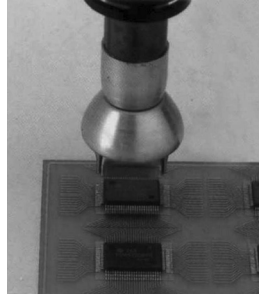

Figure 2
3. **Soldering:** Heat the lead frame evenly. (Fig.2)